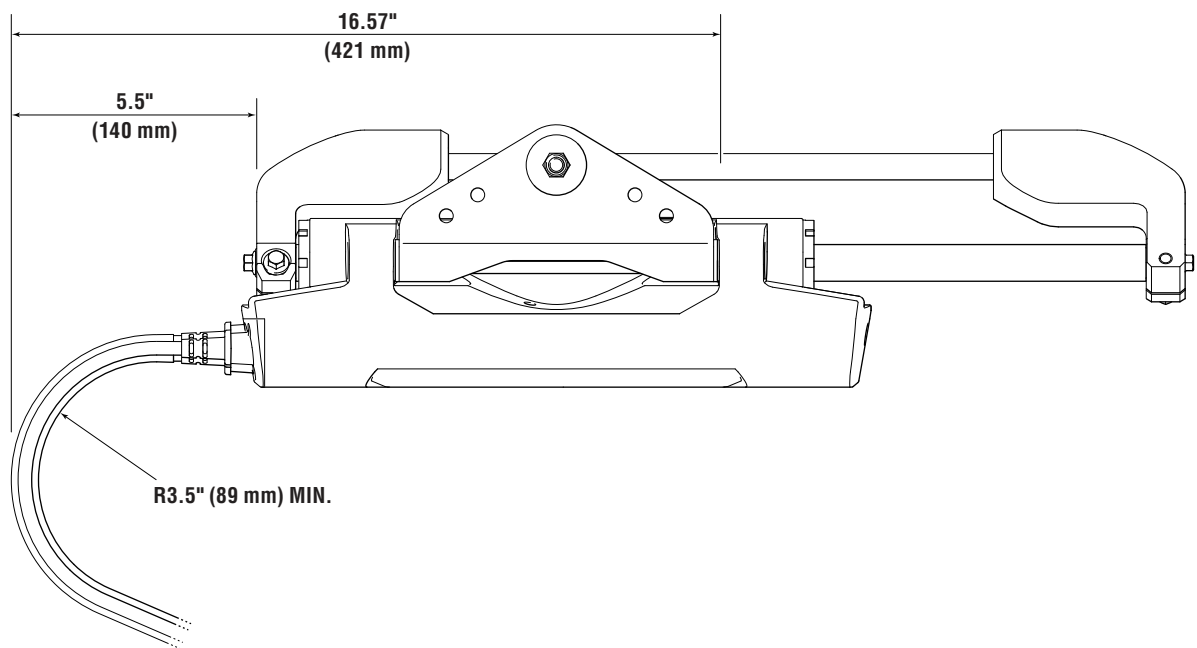
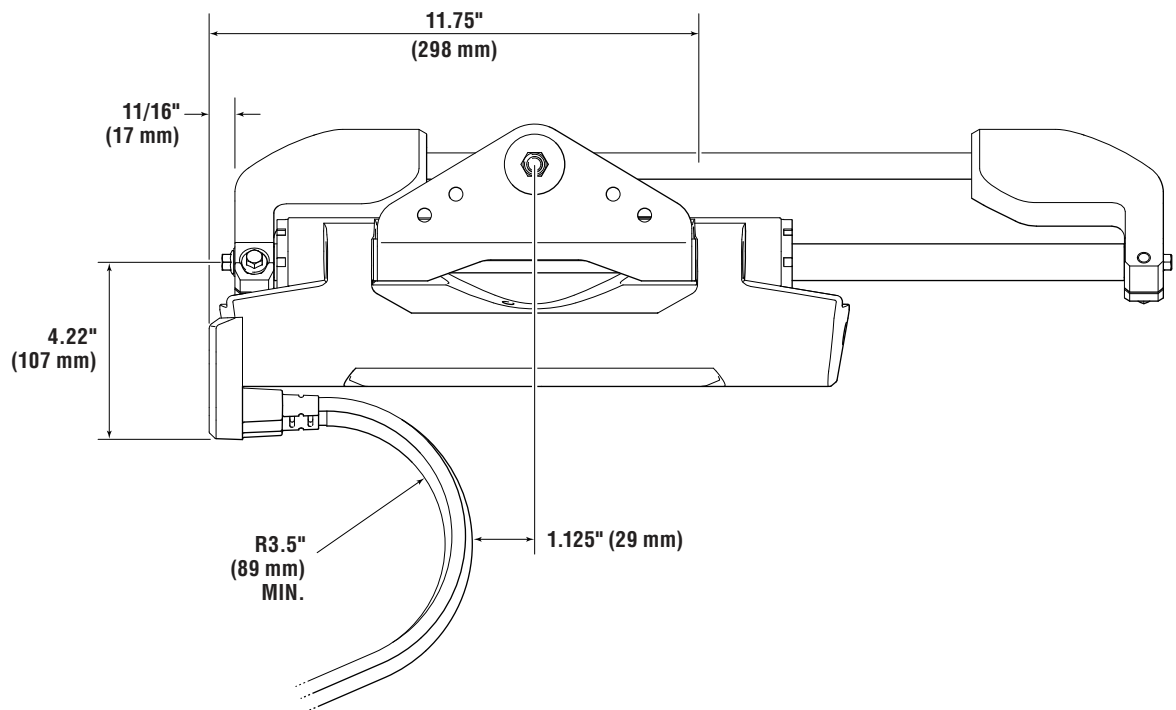

Figure 5-5. Minimum clearance for straight actuator harness.
Figure 5-6. Minimum clearance for 180° actuator harness.
- Two harness styles are available for the actuator in order to meet the minimum bend radius of the cables. The straight harness is for boats with tight clearance to the bottom of the splashwell and the 180° harness is for boats with tight clearance to the side of the splashwell. The splashwell clearance requirement for the two harness styles are shown in figure 5-5 and figure 5-6.